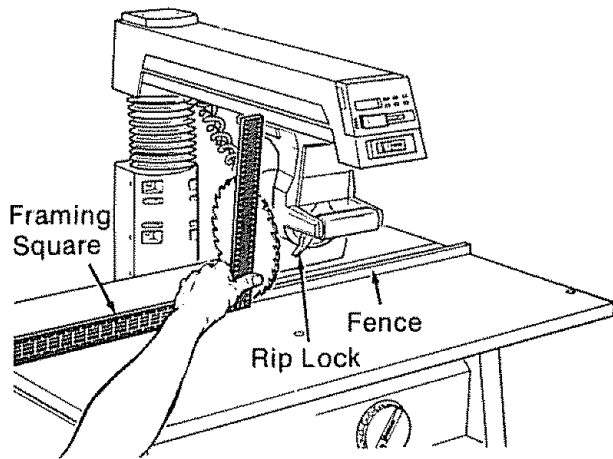

Fig. 72
3. Place the long edge of the framing square on the *table* and the short edge against the *blade*. Make sure that the square is against the blade surface and not the set of a tooth. (Figure 72)